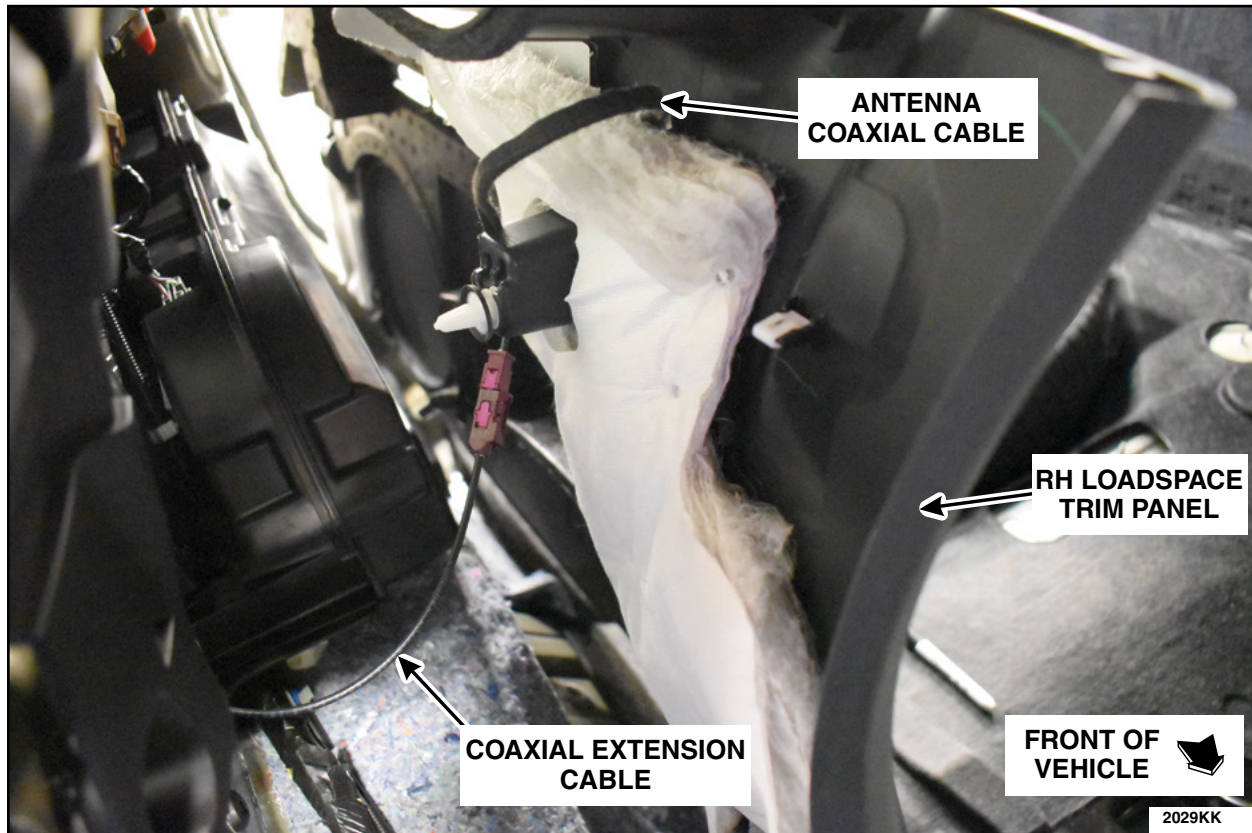

FIGURE 10
11. Connect the antenna coax cable to the coax cable extension and route as shown. See Figure 10.